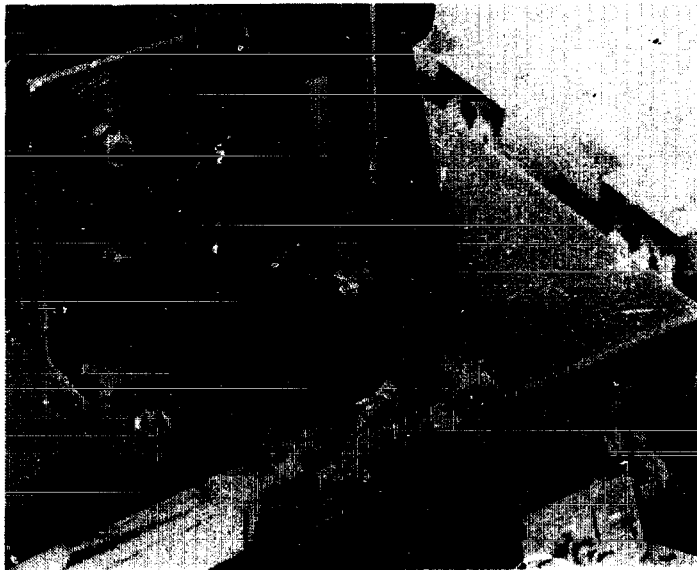

FIGURE 10
12. Move the manual operator handles toward the linear actuator. Replace the end screws and tighten to 120 in. lb. (13.6 N•m) using a screwdriver as a wedge to prevent the rod end assembly from twisting in the handle. See Figure 10.